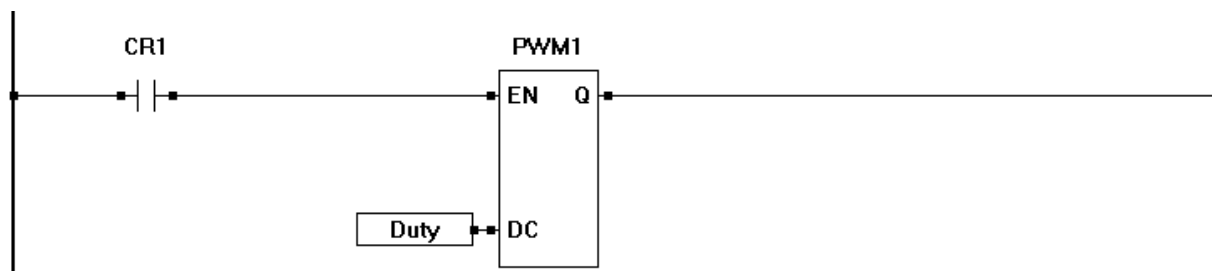

Figure 8-3
To control a PWM output, specifically when it is enabled, disabled and its duty cycle, the **PWM** function block is used. This function block has two inputs (EN for Enable and DC for Duty Cycle) and also has one output (Q). When the PWM function block is enabled (the EN input is true), the PWM channel is active and operating at the frequency defined in the project settings and the Duty Cycle (variable connected to DC of the PWM function block). When the EN input is false, the PWM channel output is disabled. Figure 8-3 illustrates the PWM function block in a sample circuit.